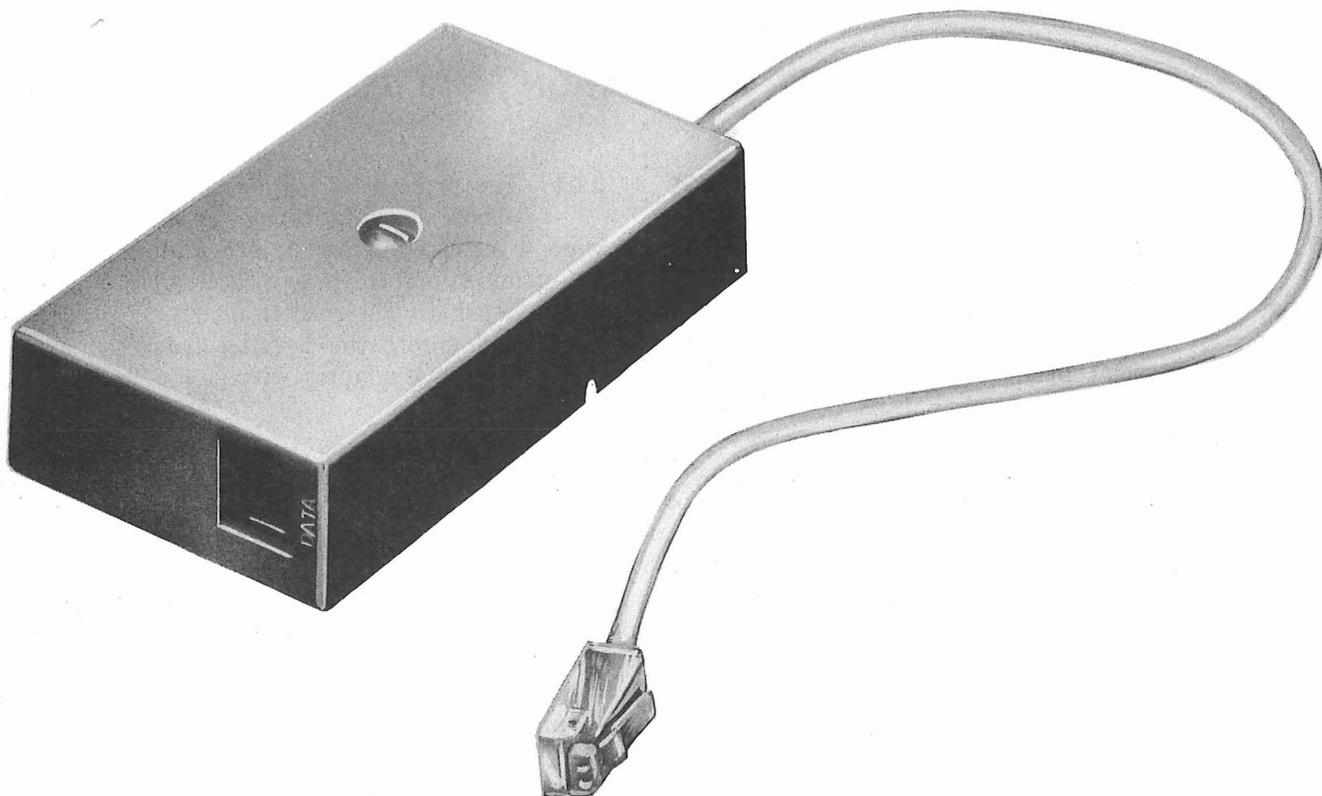

Fig. 1—330A Adapter
2.02 The printed wiring board is mounted in a plastic housing which measures 2.5 inches wide, 4 inches long, and 1 inch high (Fig. 1). The 8-position miniature jack is accessible on one end of the housing. The cord is attached to the circuit board and enters the housing from the opposite end. The 330A adapter weighs 4 ounces.